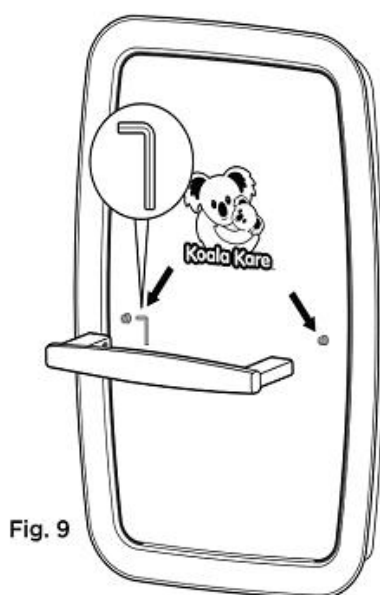

Fig. 9
- Use provided Allen wrench to tighten the set screws in the handle, securing it to the handle mounting studs. **Fig. 9**